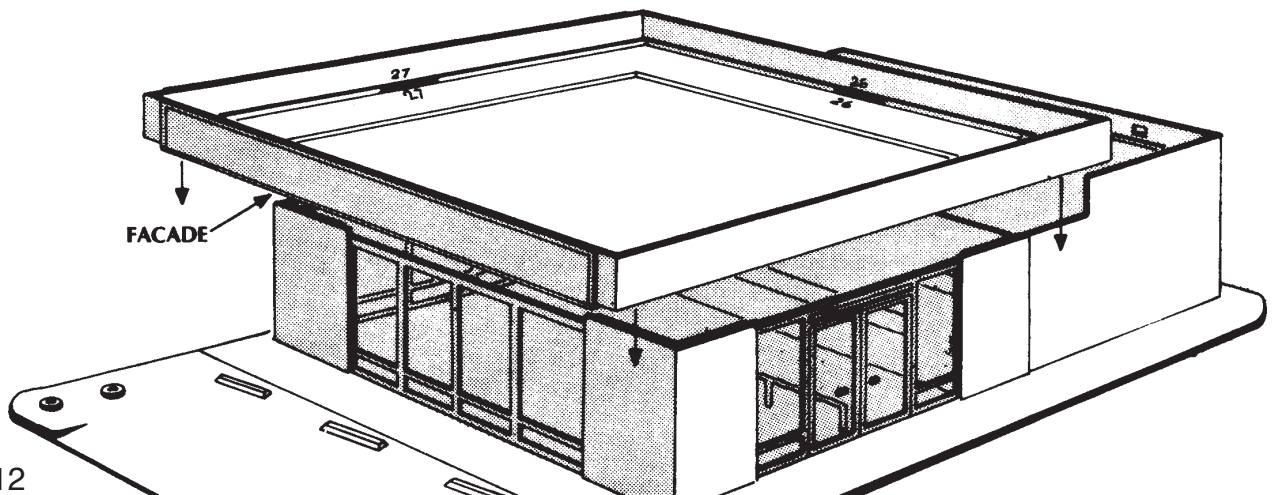

fig. 12
12. Carefully cement the FACADE to the brick walls and windows, with the number "28" facing forward. (Fig. 12)